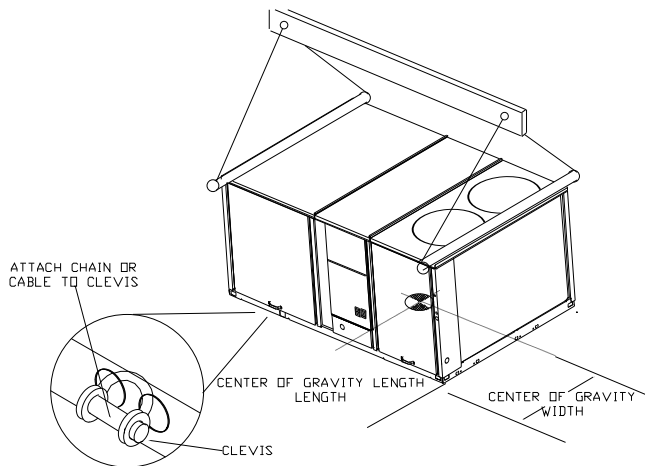

Figure 8. Rigging and center of gravity data
Refer to Figure 8 and Table 1 and Table 2 for typical unit operating weights rifting before proceeding.
2. Rig the unit as shown in Figure 8. Attach adequate strength lifting slings to all four lifting brackets in the unit base rail. Do not use cables, chains, or slings except as shown.
3. Install a lifting bar, as shown in Figure 8, to protect the unit and to facilitate a uniform lift. The minimum distance between the lifting hook and the top of the unit should be 7 feet.